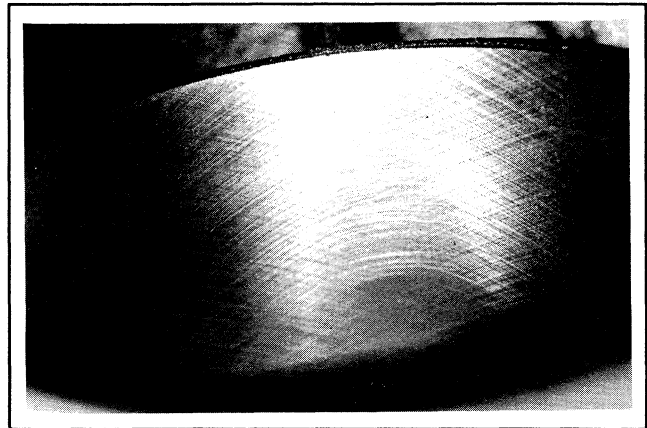

Figure 10–2. Cylinder Bore Crosshatch After Honing.
3. When bore is within .0025" of desired size, remove coarse stones and replace with burnishing stones. Continue with burnishing stones until within .0005" of desired size and then use finish stones (220–280 grit) and polish to final size. A crosshatch should be observed if honing is done correctly. The crosshatch should intersect at approximately 23–33° off the horizontal. Too flat of an angle could cause the rings to skip and wear excessively, too steep of an angle will result in high oil consumption (refer to Figure 10–2).
4. After resizing, check the bore for roundness, taper, and size. Use an inside micrometer, telescoping gauge, or bore gauge to take measurements (Refer to Figure 10–3). The measurements should be taken at three locations in the cylinder—at the top, middle, and bottom. Two measurements should be taken (perpendicular to each other) at each of the three locations.